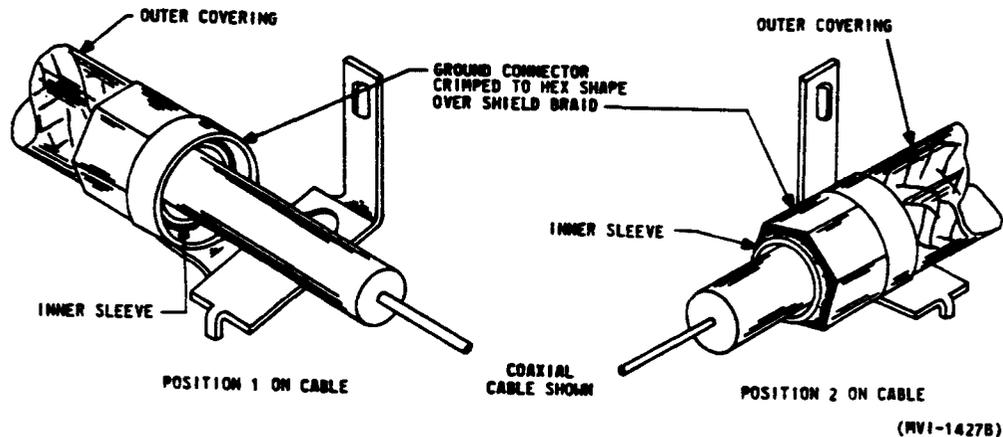

FIG. 5 FLAG-TYPE SHIELD GROUND CONNECTOR
5.2211 Slip the proper outer sleeve, flag-type connector or other outer part over the exposed shield and back onto the outer cable jacket. When a flag-type connector is provided, place the connector onto the cable so that it properly oriented with respect to its mounting and tab locking holes in the equipment panel. Figure 5 shows two crimped positions for a flag-type connector. The position to be used is controlled by the connector's mounting and tab locking holes in the panel and the direction that the cable approaches the connector.